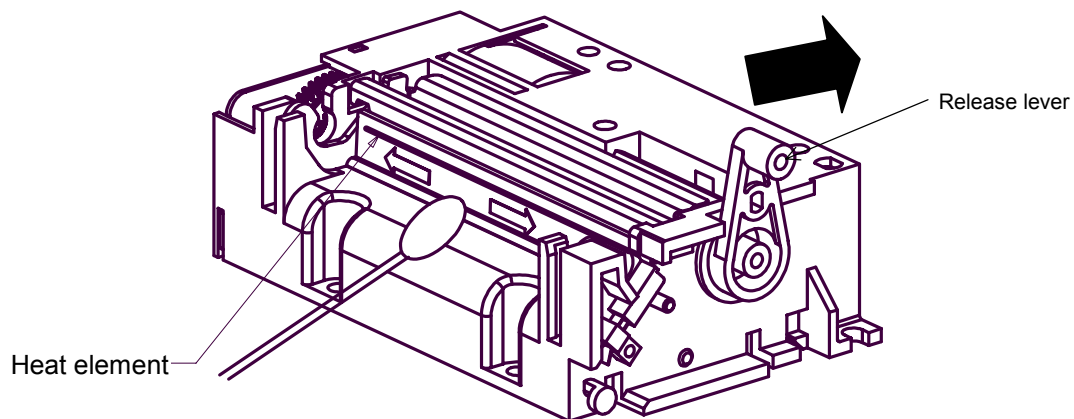

Figure 8-4 Head Cleaning Procedure
- (1) Turn over the lever to the direction of the arrow in the **Figure 8-4**. Pull up the platen after making sure that the platen is released from the lever. (Open state)
- (2) Clean the heat elements with a cotton swab immersed in ethyl alcohol or isopropyl alcohol.
- (3) After the alcohol has completely dried, close the platen. (Close state)